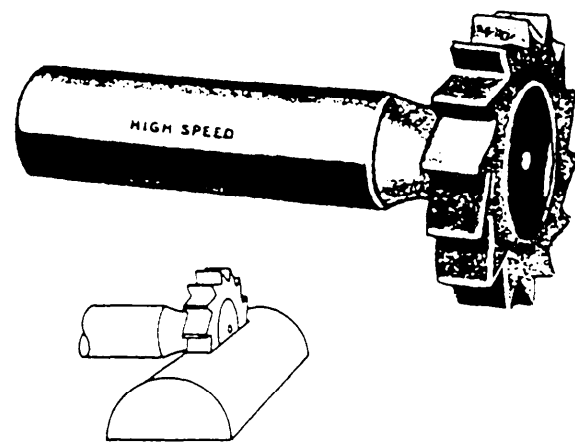

Figure 7-38.—Woodruff keyseat cutter.
**WOODRUFF KEYSEAT CUTTER.**—A Woodruff keyseat cutter (fig. 7-38) is used to cut curved keyseats. A cutter less than 1/2 inch in diameter has a shank. When the diameter is greater than 1/2 inch, the cutter is usually mounted on an arbor. The larger cutters have staggered teeth to improve the cutting action.